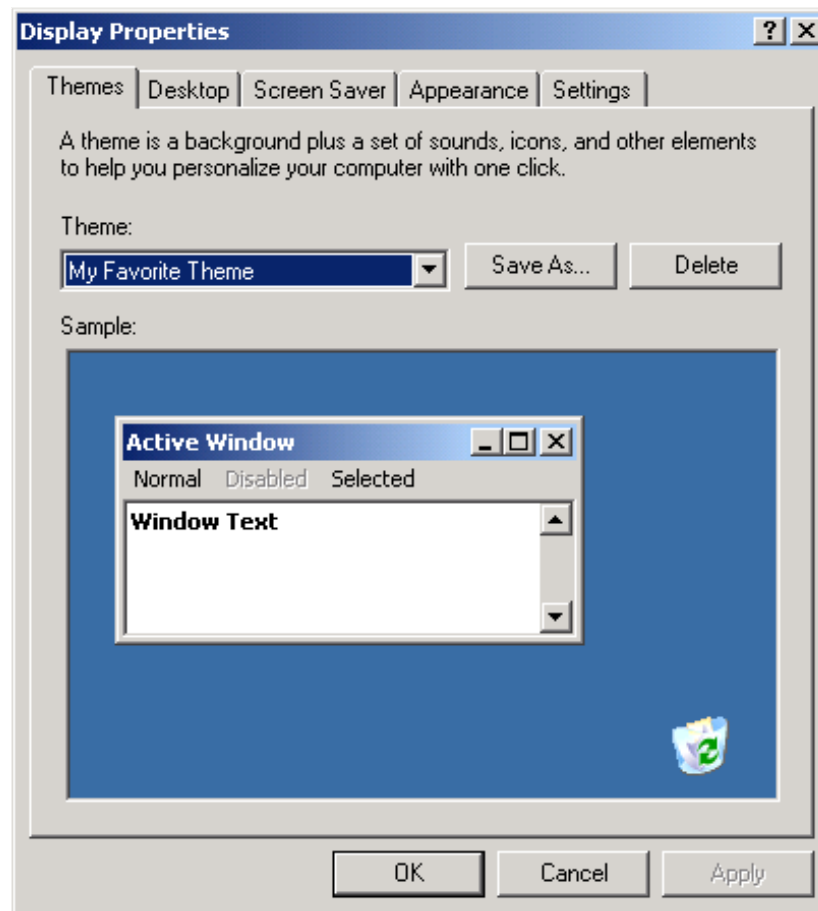

FIGURE 153. My Favorite Theme
5. The system shows that “My Favorite Theme” is the selected one as in Figure 153.